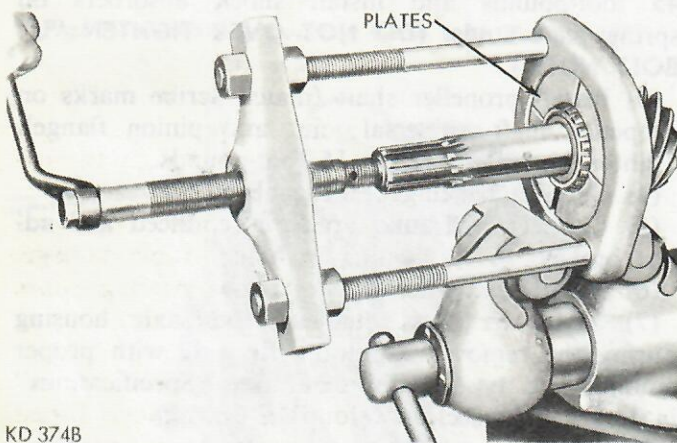

Fig. 18 Removing Drive Pinion Rear Bearing
(1) Remove drive pinion rear bearing from small stem pinion with Tool C-293 and four (4) No. 36 plates, or four (4) No. 37 plates on large stem step pinion or large stem pinion using a collapsible spacer (Fig. 18).
(2) Using a flat end brass drift, remove front and rear pinion bearing cups.